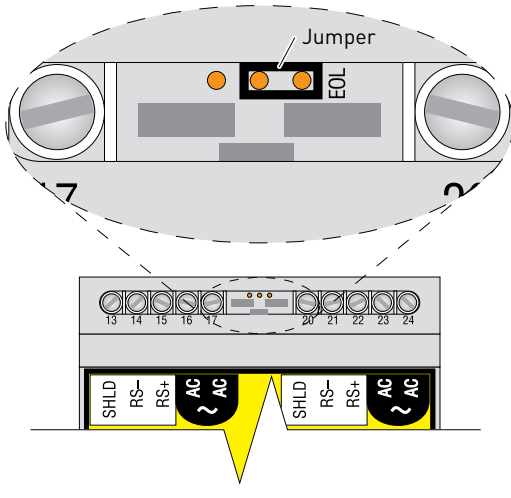

Figure 5a. End of Line Jumper for last TTSIM-1
- On the last TTSIM-1 in the circuit, place the jumper as shown in Figure 5a.